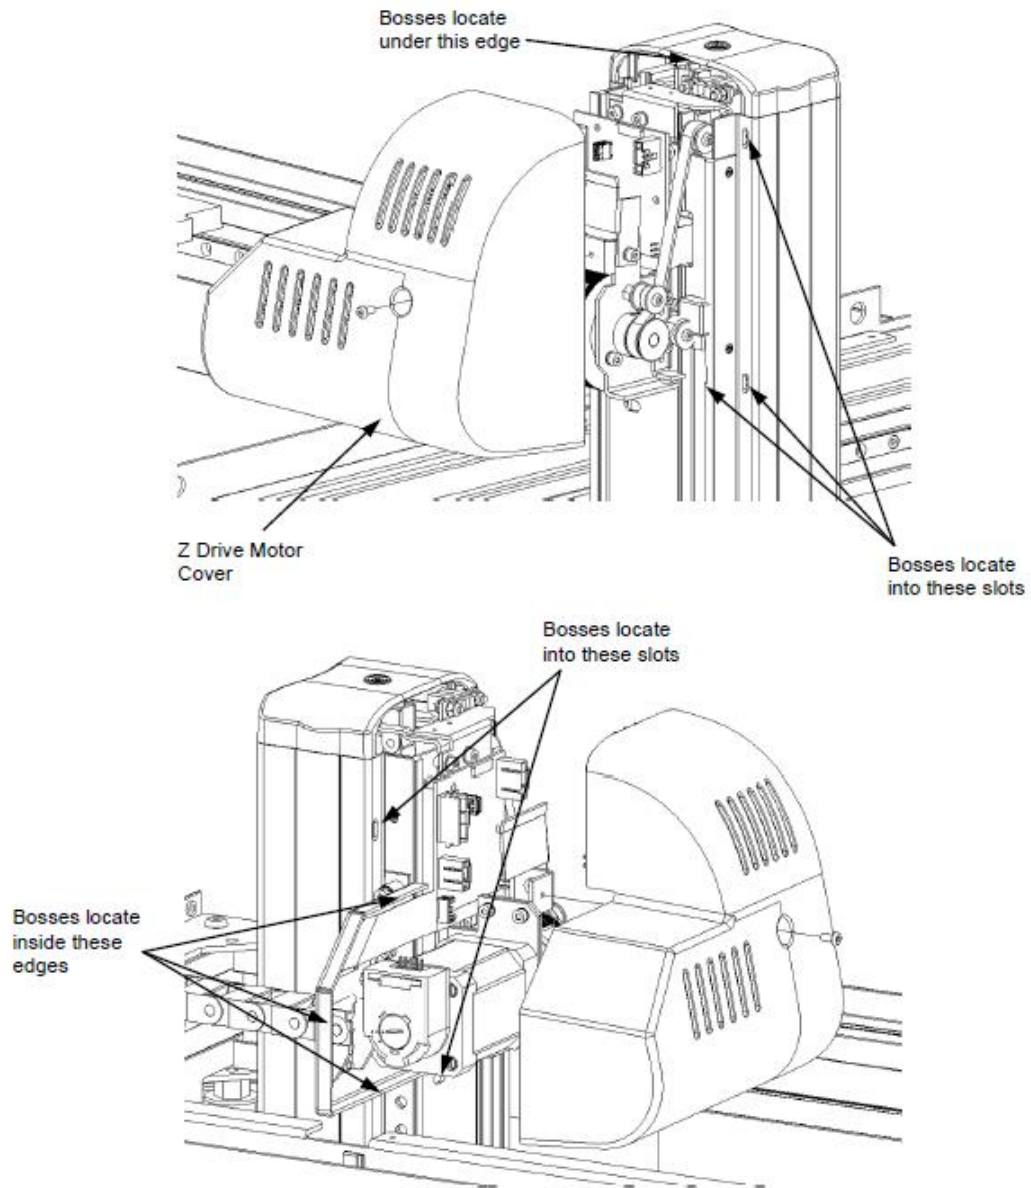

Figure Z-1: Removing the Z Drive Motor Cover
1. Remove the Transport Arm Z Drive Motor Cover from the back of the Z Drive (Figure Z-1).